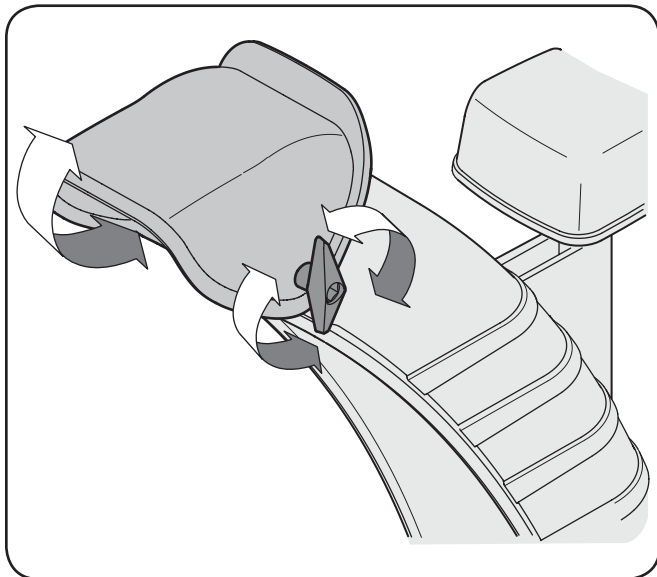

Figure 3-29
2. Pivot the chute upward or downward before retightening the wing knob. See Fig. 3-29.